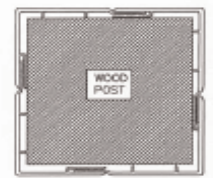

Figure 3
6. Snap together the fourth piece of Post Wrap to complete installation. SEE FIGURE 3